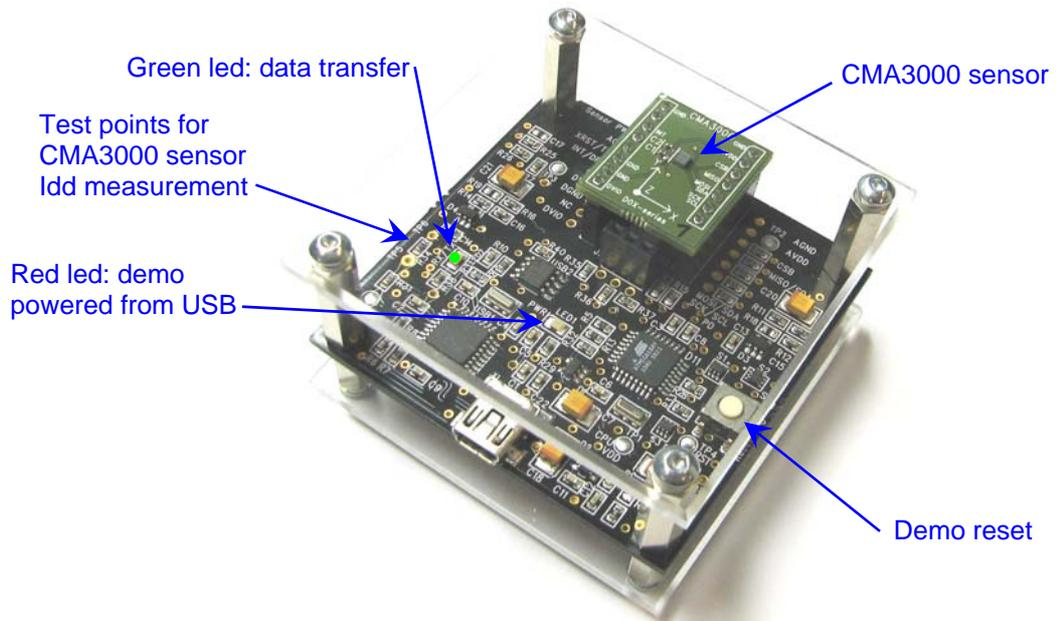
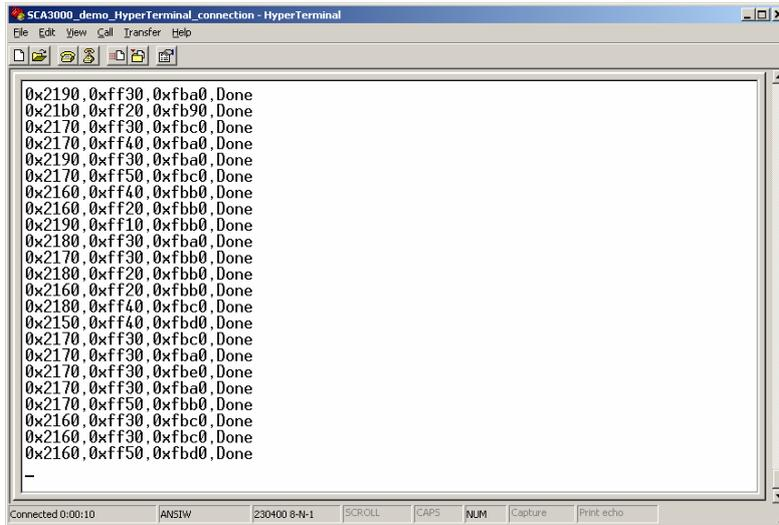

Figure 1. CMA3000 demo USB interface board and CMA3000 PWB.
Figure 13. SCA3000 demo output during data logging.
- CMA3000 sensor soldered on chip carrier PWB (see Figure 1 on next page)
- USB interface card (see Figure 1 on next page)
The CMA3000 DEMO KIT USB interface board (black PWB) and CMA3000 PWB (green PWB) are shown in Figure 1. The USB interface card converts the USB interface to SPI or I²C interface. CMA3000 sensor is soldered on PWB which is connected to interface board.
MCU can be reset by exiting from the GUI and then pressing the reset button (Figure 1) on USB interface board.
5. Press demo reset button (see Figure 1). CMA3000 DEMO KIT sends an info text to HyperTerminal (see Figure 13). If the HyperTerminal software is unable to connect the CMA3000 DEMO KIT or the info text does not appear,
until info text appears to HyperTerminal screen (see Figure 13).
- see if the info text appears on the screen (see Figure 13)→ if the info text is transmitted, the communication between the demo kit and PC is ok